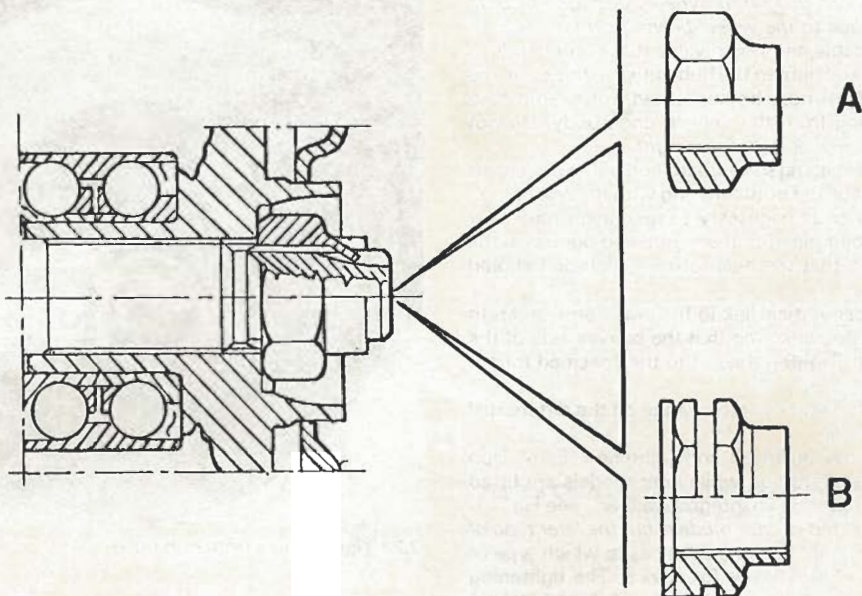

Fig. 7.1 Front hub nut types (Sec 3)
**18** A new hub nut must now be fitted and tightened. Early Tipo models were fitted with a plain hub nut, while later models are fitted with a modified hub nut incorporating an integral washer - see Fig. 7.1. The earlier type of nut can be fitted to later models, but the later type of nut cannot be fitted to early models. If in any doubt as to which type of nut should be used, consult a FIAT dealer for advice. The tightening procedure for the early type of nut involves the use of thread-locking compound. Proceed as follows.